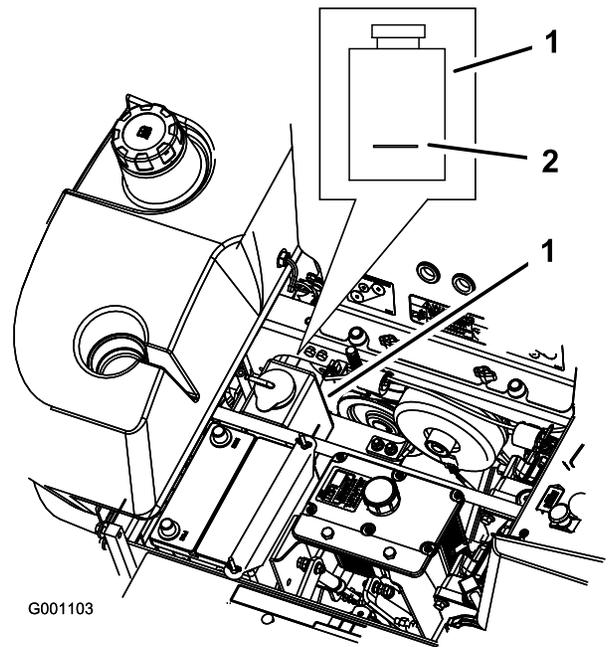

Figure 66
3. With the engine cool, check the overflow bottle level. The fluid needs to be up to the bump on the outside of the overflow bottle (Figure 66).
4. If the coolant level is low, add a 50/50 mix of extended life antifreeze/Dex-Cool® and water to the overflow bottle (Figure 66).
5. Add the 50/50 coolant mix to the overflow bottle and fill it to the indicator line on the bottle (Figure 66).